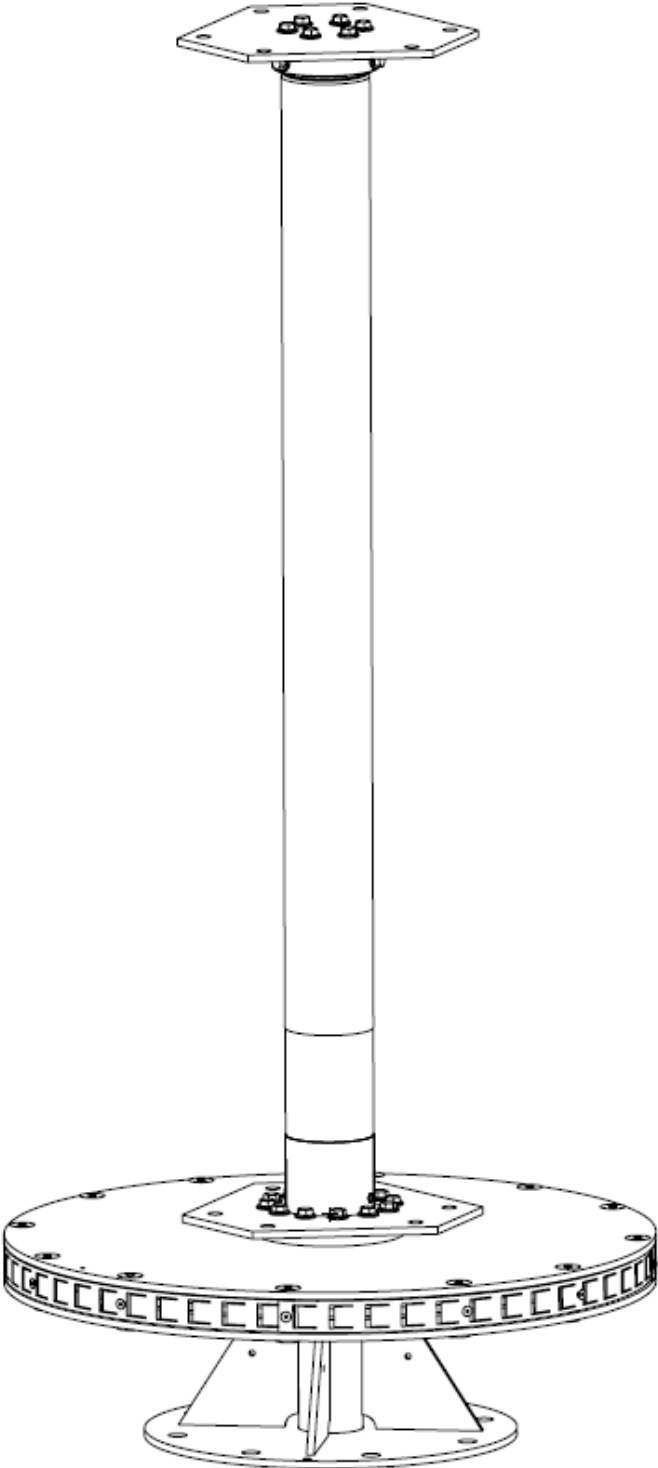

FIGURE 4
8. Place the shaft (Fig. 4) on a stable, non-moving raised horizontal surface.